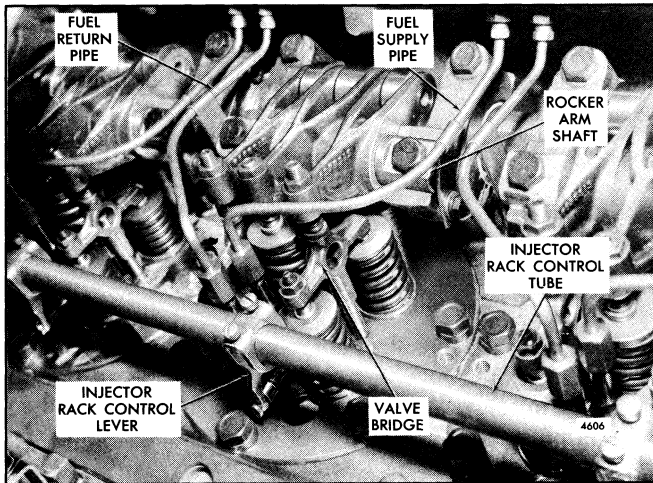

Fig. 6 - Location of Fuel Pipes and Connectors
2. Remove the fuel pipes from both the injector and the fuel connectors (Fig. 6), as follows: